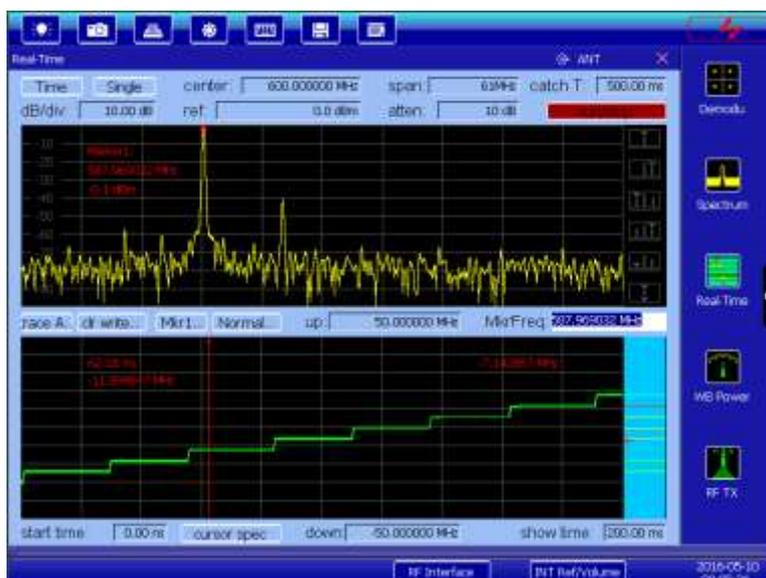

Fig. 4-12 Real-time spectrum analysis interface
- 5) Click **[[center]]** and **[[span]]**, **[[up]]**, **[[down]]** and **[[show time]]** for relevant setting on the lower part of the screen as per the input signal. After that, the spectrum of the signal under test can be seen, as shown in Fig. 4-12.